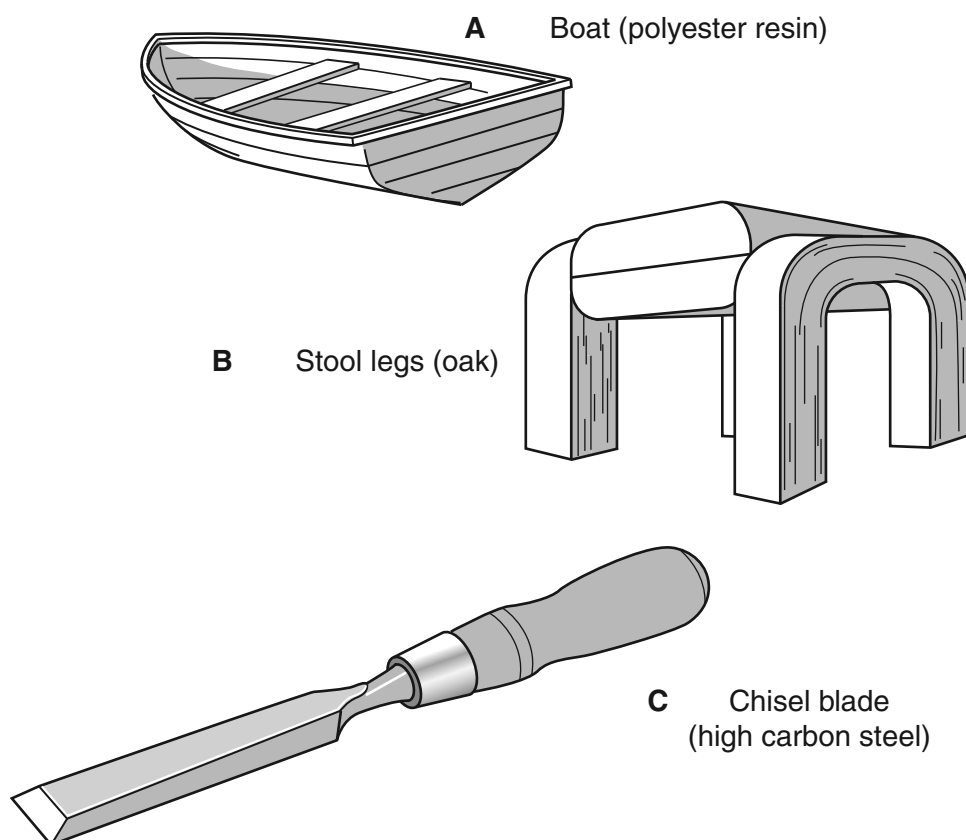

Fig. 7
- 13** Fig. 7 shows three products for which each of the materials has been modified during manufacture to improve its properties.
- (a)** Describe briefly how each of the materials in Fig. 7 has been modified to improve its strength. [6]